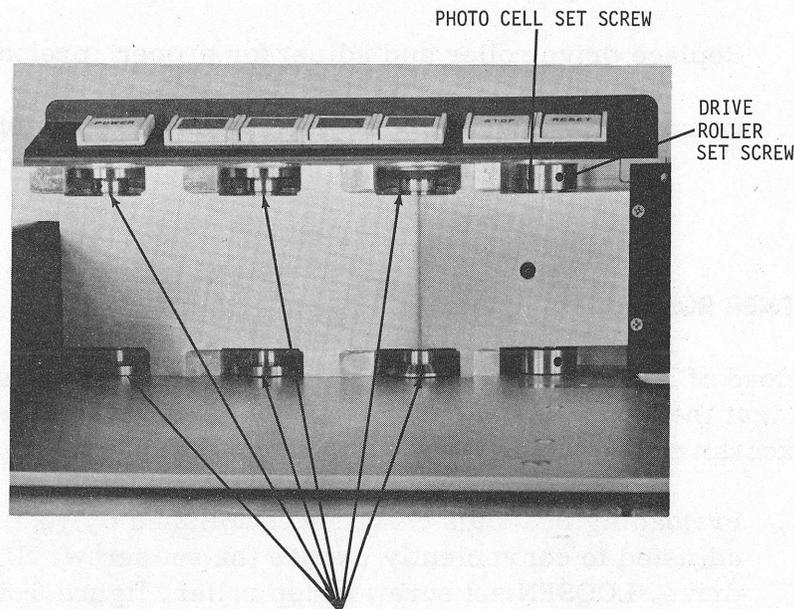

Figure 6-6. Location of Photo Cell Set Screw
- e. To gain access to the stack photocell set screw, the drive roller must be removed. Using a 1/16 Allen screwdriver loosen the set screw in the drive roller and remove the roller, figure 6-6.
- f. Using the same tool, loosen the set screw in the stacker casting which retains the stack photocell, figure 6-6.